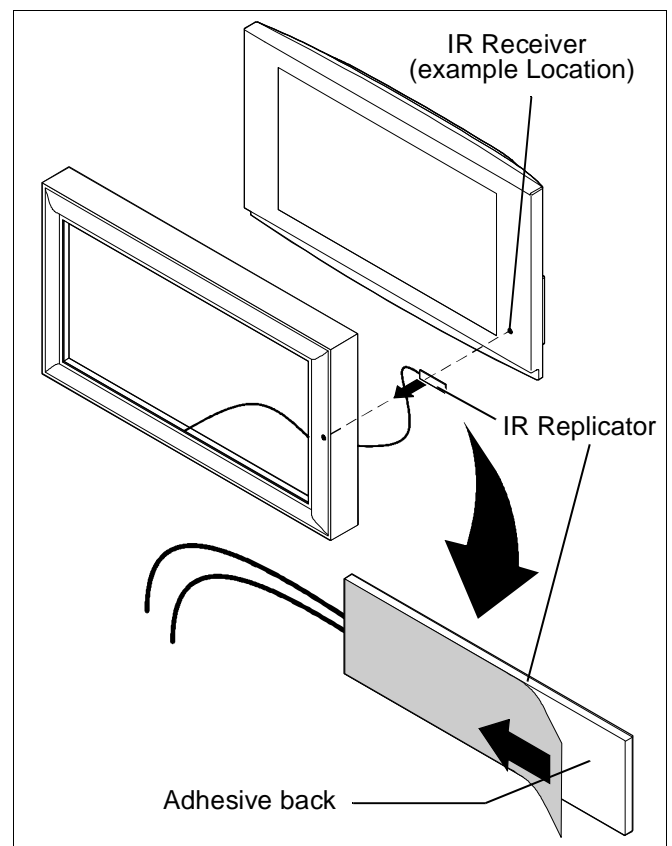

Figure 7
11. Locate IR receiver on display. (See Figure 7)
12. Remove protective cover from back of IR Replicator. (See Figure 7)
13. Position IR Replicator inside frame so that when frame is mounted on display the IR Replicator is positioned directly in front of IR Receiver on display. (See Figure 7)